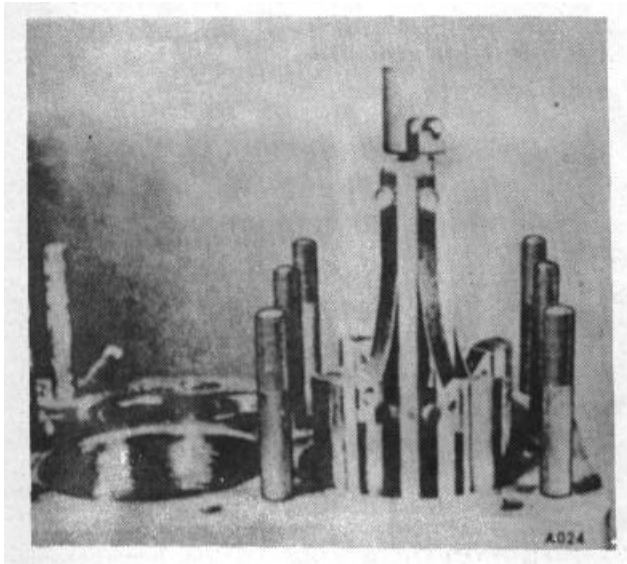

Figure 23.
5. Cut the glaze on the cylinder bores with a de-glazer to assure quick seating of the new piston rings. (Fig. 23) Protect the crankshaft with oily (not dirty) rags during the deglazing operation.